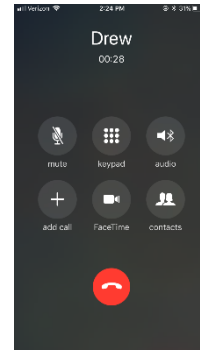

Figure 15
3. Once the phone begins to ring, the source display will indicate that the Processors are the active audio source (Figure 15).